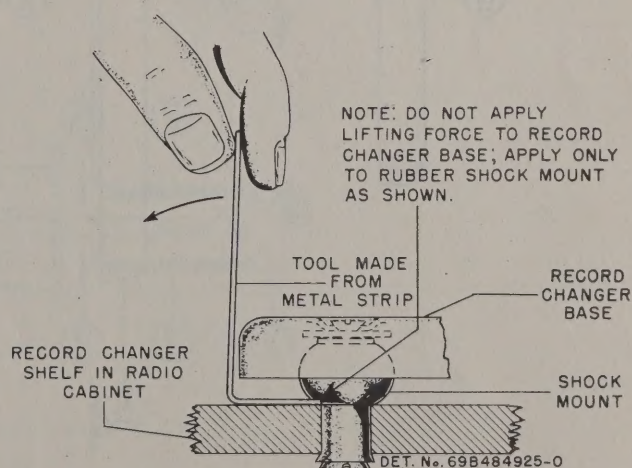

FIGURE 8. REMOVAL OF CHANGER FROM CABINET
2. Remove the changer from the cabinet, as shown in Figure 8.